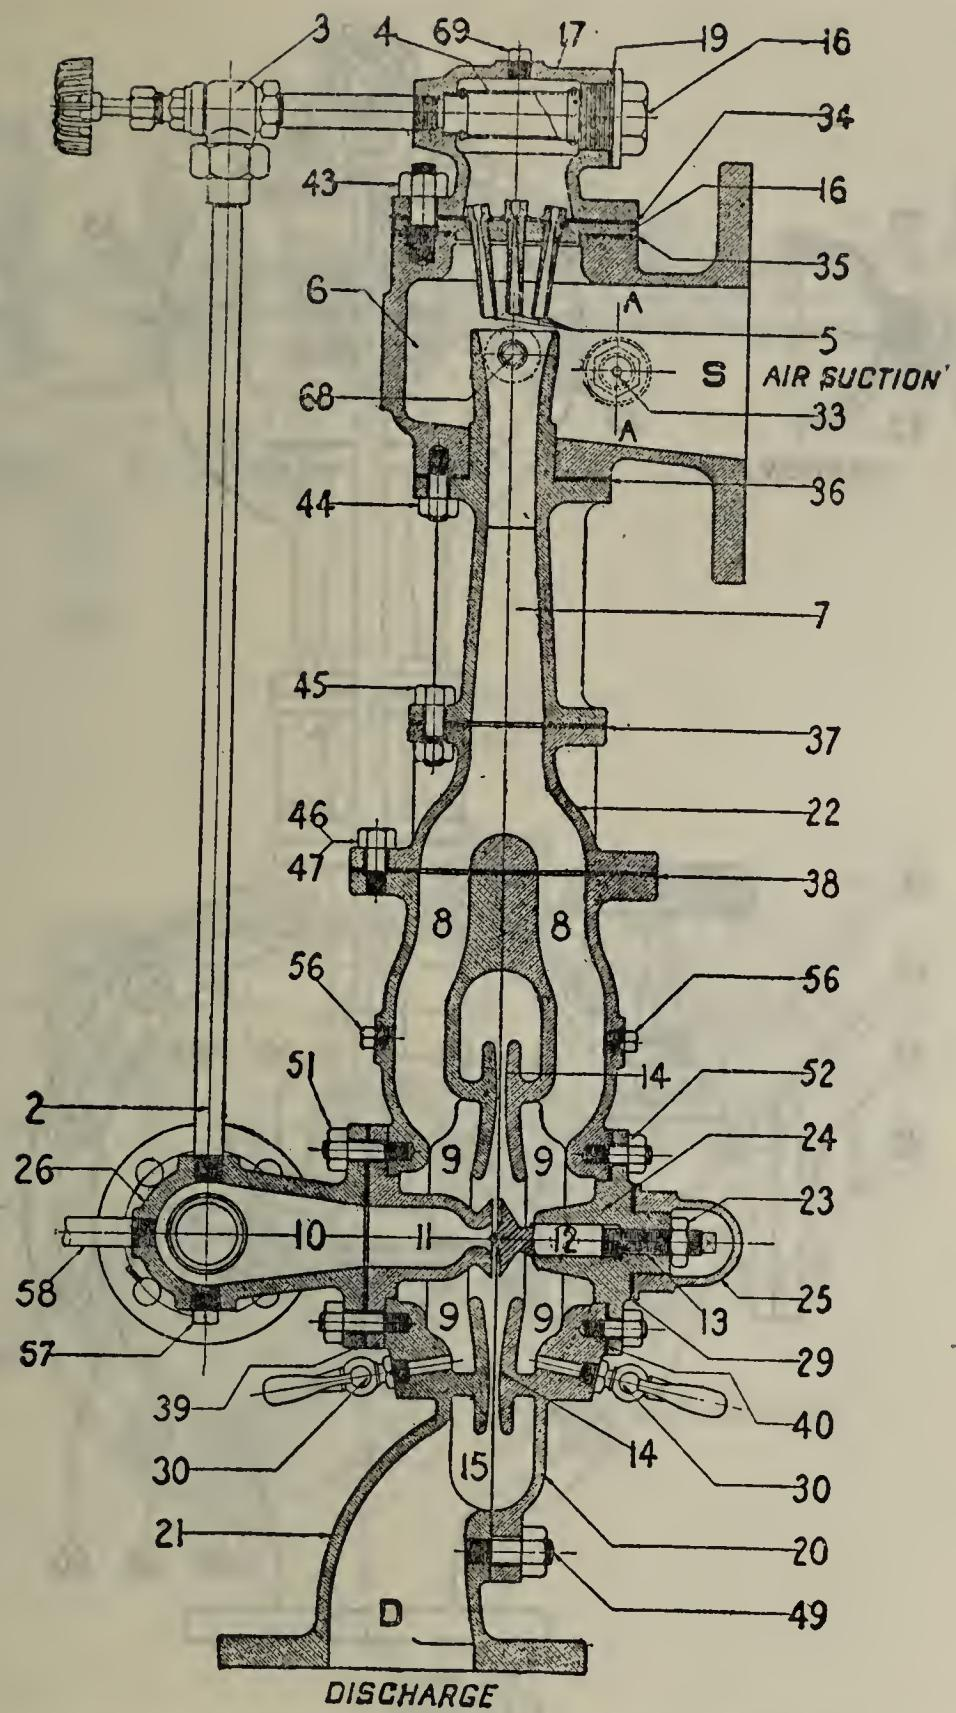

FIG. 14-4.
**Principles of operation.** 14-87. Figures 14-4 and 14-5 show the details of the radojet, and 14-6 and 14-7 of the air ejector. The general principles of operation of both types are the same. The apparatus consists of two steam ejectors working in series, the upper ejector being called the first stage and the lower the second stage. In operation, live steam, generally through a reducing valve, is delivered to the upper or first-stage jets. The steam expands through these jets or expansion nozzles and gains a high velocity. The jets of steam from the first stage pass across a suction space in communication with the main condenser, where they mix and draw air from the condenser. The mixture of air and steam then enters a large diverging nozzle called the diffuser, or second-stage steam chest. Steam from the second-stage nozzles draws the mixture from the second-stage steam chest, or chamber, whence it is discharged past a check valve, either to the atmosphere or to the feed tanks. In the air-ejector installation an air separator is usually fitted between the ejector and the feed tank.
14-92. The second-stage nozzle-point adjustment is the only adjustment required on the radojet. (See figs. 14-4 and 14-5.) There is no corresponding adjustment on the air ejector. Should it be necessary for any reason to remove the nozzle point (12), unscrew nozzle cap (25), unscrew lock nut (23), and then unscrew the nozzle point after the nozzle-point guide (24) is taken off. To replace, screw nozzle point in, until the shoulder brings up on (24). This is done as a precaution to prevent the face of the nozzle point being jammed against the nozzle (11) when the guide is replaced. Replace guide (24) and make up the joint, using a new gasket if there is any doubt about the condition of the old one. This joint must be securely and finally made at this time because any work on it after the nozzle point is adjusted will affect
14-95. In reassembling, care must be taken that all gaskets are in good condition, and joints properly made and set up; otherwise there will be air leaks. In the radojet do not use gaskets where ground joints are provided, such as between pump bodies (20) and (21), and between pump body (21) and second-stage nozzle (11). (Figs. 14-4 and 14-5.)